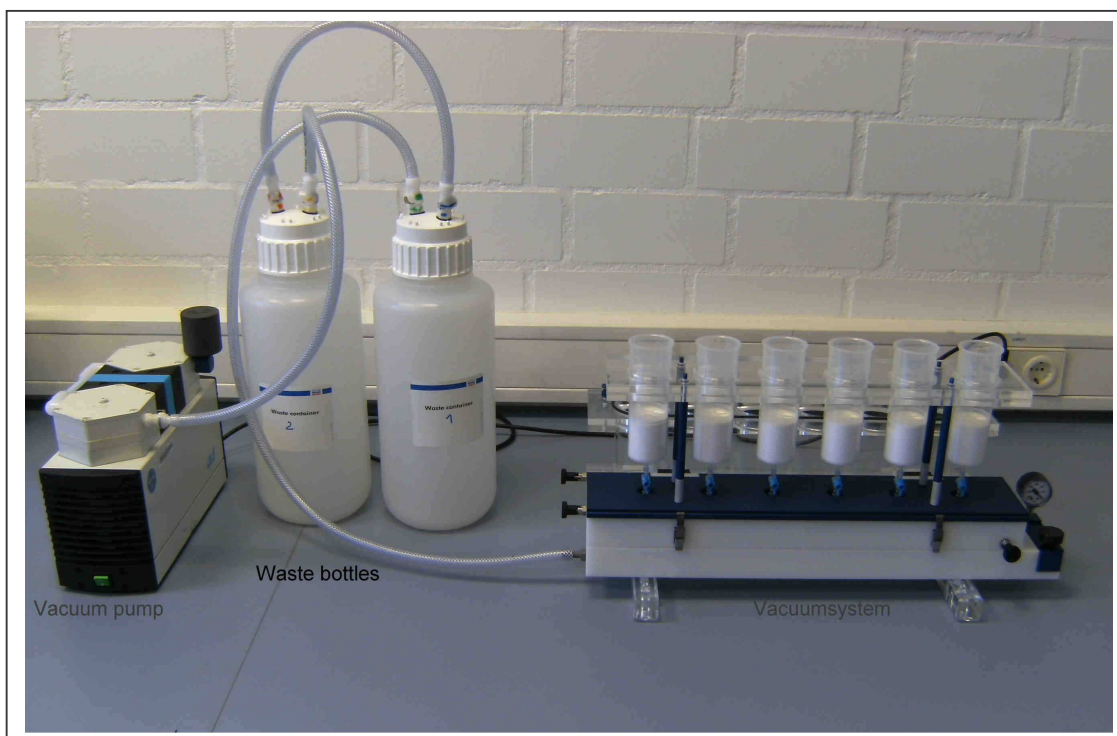

Figure 10
1. Place Component 1 on a flat, planar surface and connect it with a waste container and vacuum pump to build up a vacuum system. For connection use suitable tubings that fits onto the tubing connection on the left side of component 1. The waste container is connected with component 1 and a vacuum source. (see Figure 10 as an example for a waste system with two containers)